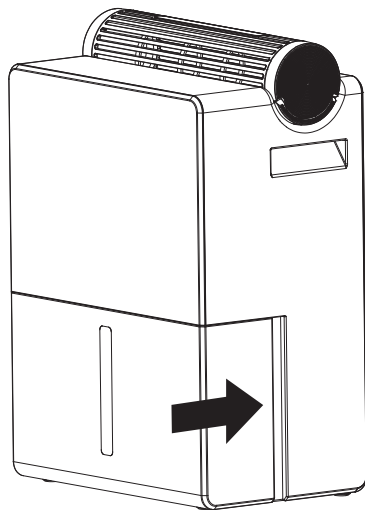

Figure 2
2. Reinstall the water tank into the machine (see Figure 2).